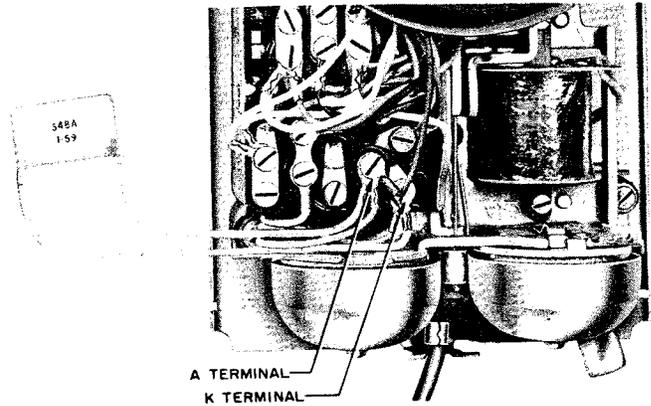

Fig. 10 - Connection for Open Capacitor
**9.03** If ringing capacitor is open, a 548A capacitor can be bridged across A and K terminals of the network (see Fig. 10).